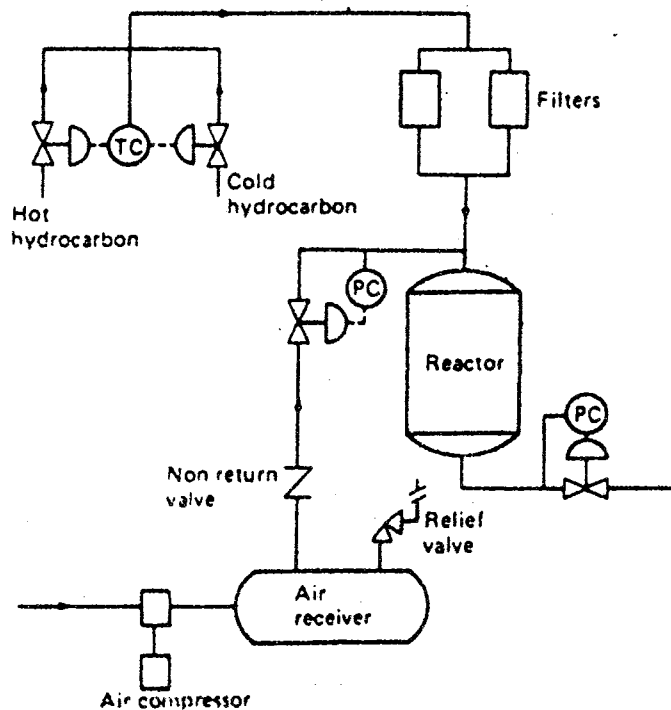

Figure Q4
*Figure Q4 shows a hydrocarbon sweetening plant. The sweetening is done by small quantities of air which normally remains completely dissolved. The increase in temperature, decrease in pressure or increase in air flow can give rise to an explosive mixture on the top of the reactor. It is necessary that the temperature of the reactor be lower than the flash point temperature of the oil.*
*Carry out a HAZOP study for the system in Figure Q4 and suggest ways to improve the safety the plant.*